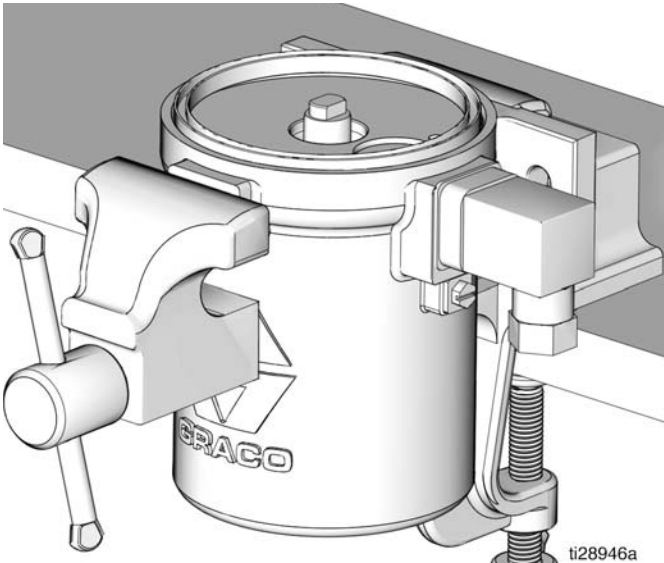

FIG. 35
12. Reposition air motor cylinder in vise to access the top of air motor cylinder as shown in FIG. 35.